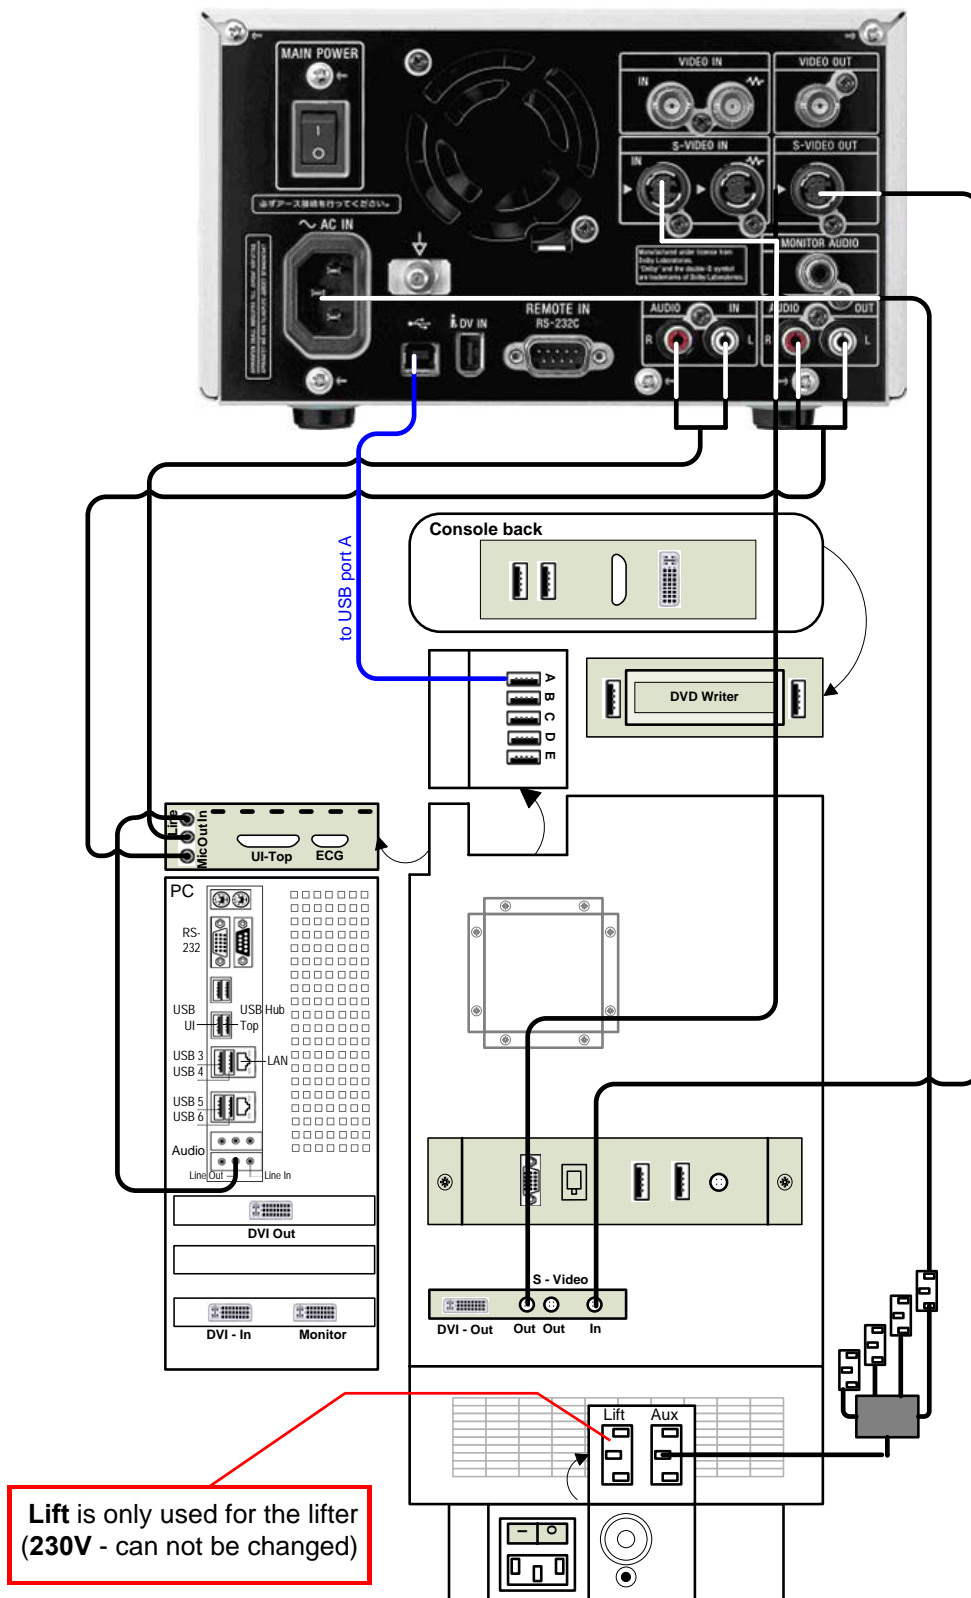

Figure 3-9 DVD Recorder connection
- 2.) Connect the DVD Recorder according to connection scheme, see: Figure 3-9 on page 3-17.